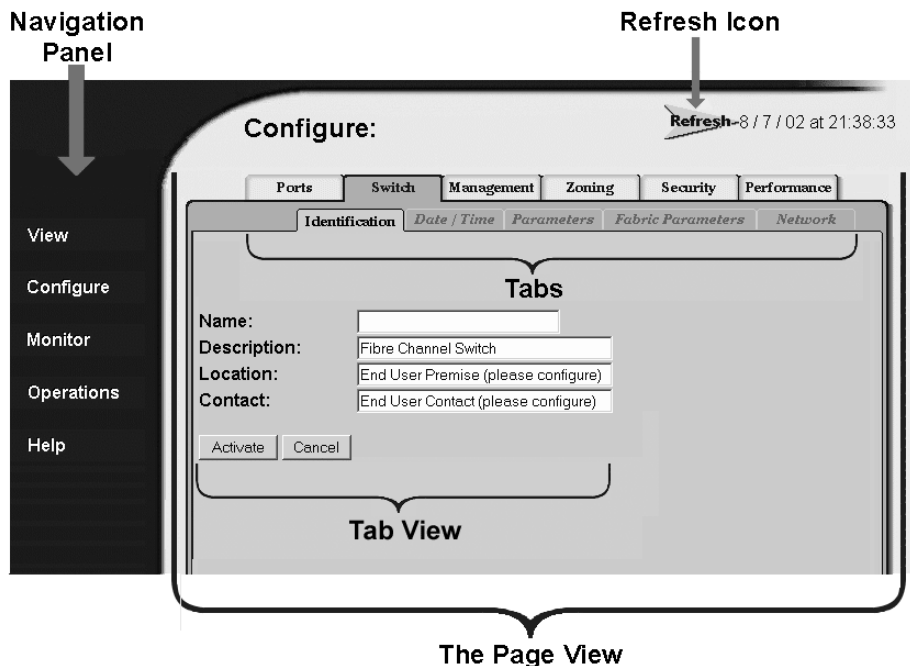

Figure 1: Example Embedded Web Server page for Edge Switch 2/24
Cross-reference links	Blue text: Figure 1
When the EWS interface opens, the default display is the **View** page. Figure 1 shows an example EWS view with labels for the various parts of the image. This example shows the **Configure > Switch > Identification** screen for the Edge Switch 2/24. For other products, the corresponding page looks very similar.
As shown in Figure 1, particular terms are used when describing the EWS interface:
- **Tab** — describes a label for a viewing option on a page, such as the **Switch** and **Identification** tabs shown in Figure 1. Task selection tabs display at the top of the page. The task selection tabs allow users to perform director- or switch-specific tasks.
After a connection is made between the web browser and the product, the **Enter Network Password** dialog box displays as shown in Figure 1.